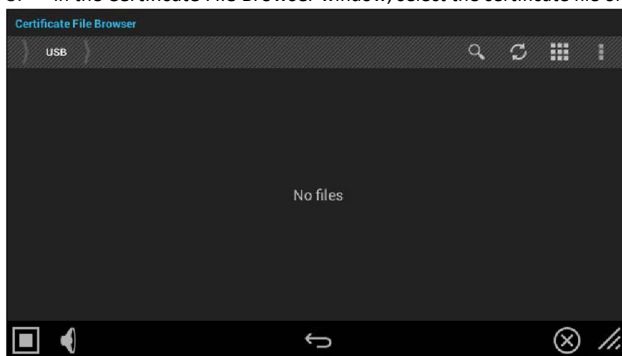

FIG. 107 Select a Certificate Type window (indicating no certificate files found)
3. In the Certificate File Browser window, select the certificate file on the attached USB drive that will be installed (FIG. 107):